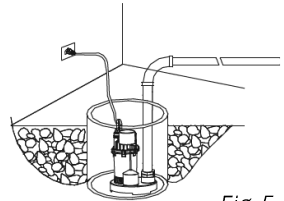

Fig. 5
7. Plug in the pump. It's now ready for use. (Fig. 5).